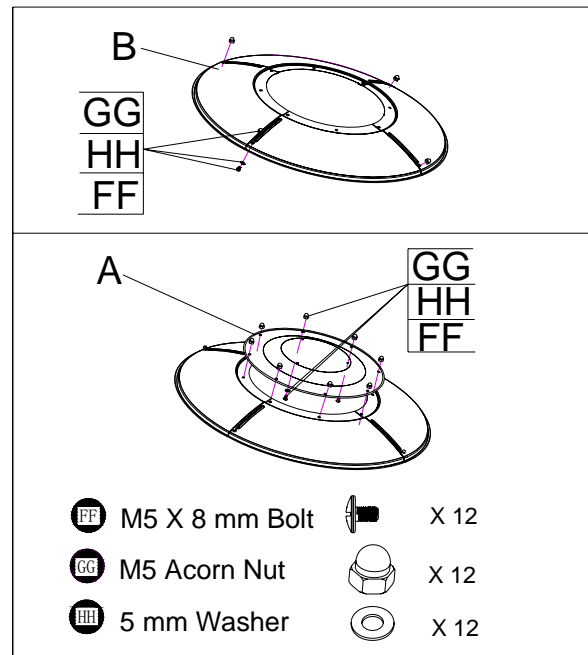

Fig. 8
8. Attach heat insulation plate (R) onto the bracket of the Burner Assembly (C); then attach the Assembled KD Domes (B) with Top Dome (A) to Burner Assembly (C) by using three M5 Acorn Nuts (GG) and three 5 mm Washers (HH). (Fig. 8)